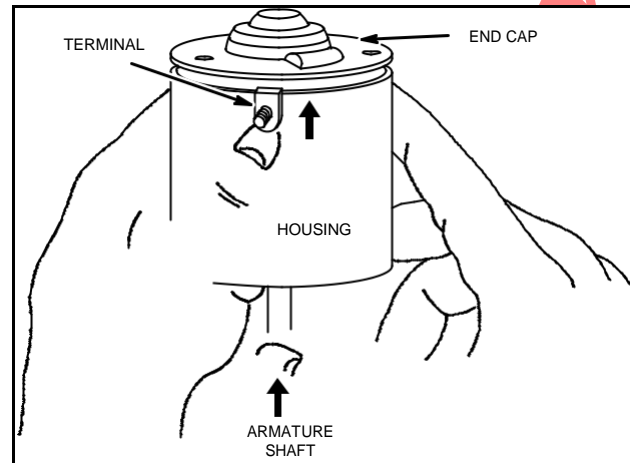

Fig. 671 – REMOVING ARMATURE
4. Remove armature and end cap as shown in Fig. 671.